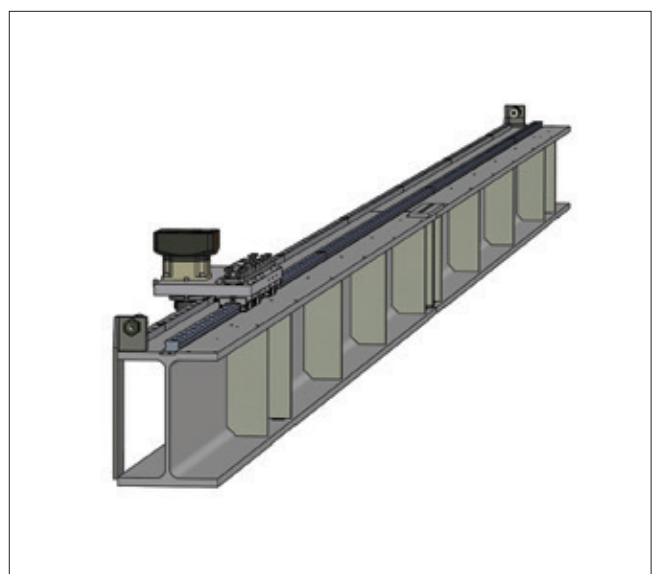

Figure 5.20 — AXS Beam Axis with rack and pinion drive for parallel use
- Beam Axis for parallel use (Figure 5.20)